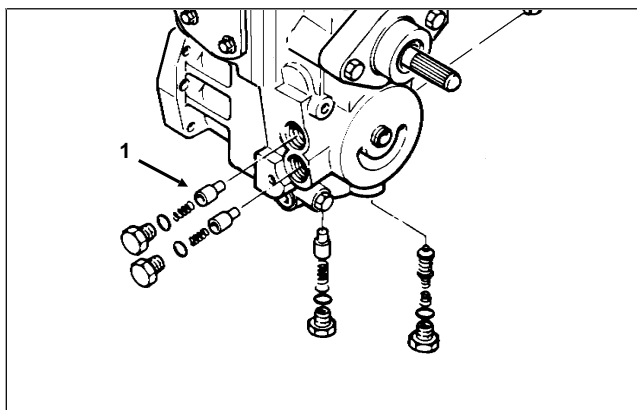

Figure 35
2. Remove the heat exchanger bypass valve hex plug (Fig. 35).